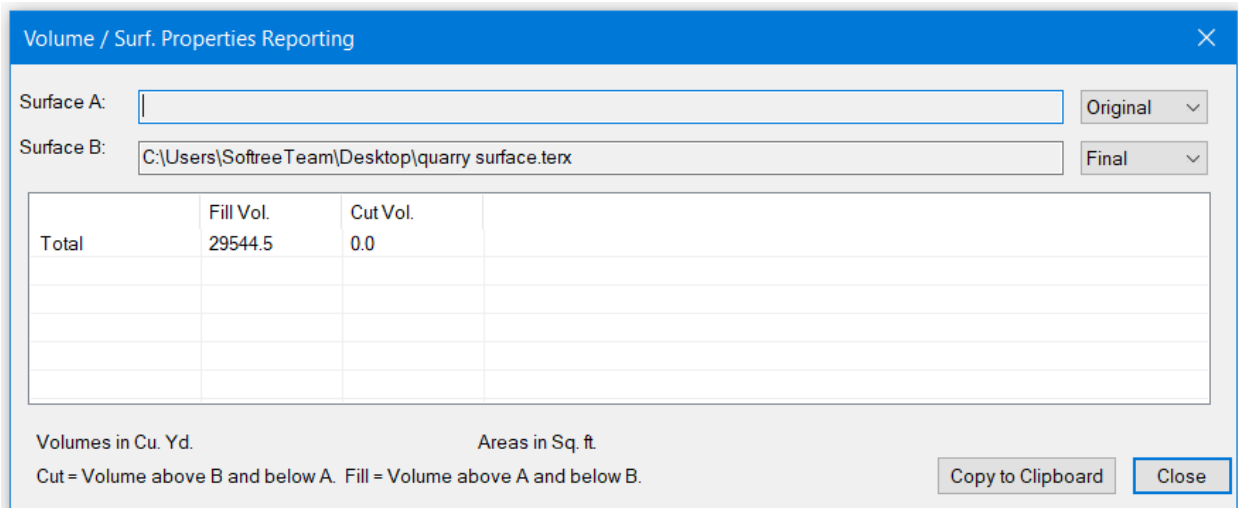

Figure 9 – Volume / Surf. Properties Reporting Displaying Cut Volume
13. A Volume / Surf. Properties Reporting Dialogue Box will open displaying the volume of the excavation. Refer to Figure 9.